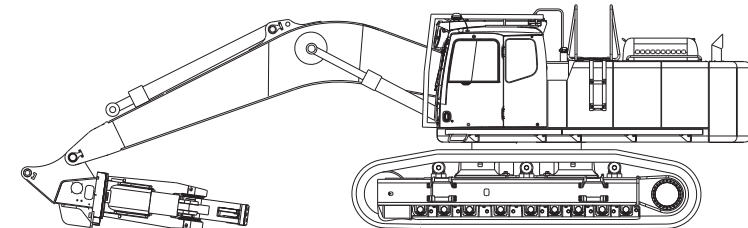

FIGURE 3-7
1. Curl the attachment under the boom of the excavator as far as the stick cylinder will extend and lower shear to the ground (see figure 3-7).